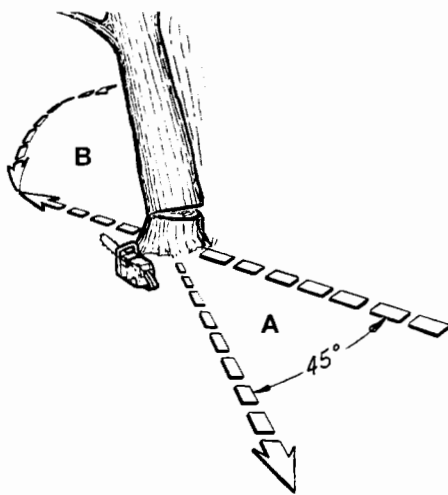

Fig. 12
**WARNING:** A retreat path (A) should be planned and cleared as necessary before cuts are started. The retreat path should extend back and diagonally to the rear of the expected line of fall, as illustrated in Fig. 12.
**WARNING:** As the felling cut gets close to the hinge, the tree should begin to fall. When tree begins to fall, stop engine, put chain saw down, and leave area along retreat path (Fig. 12).